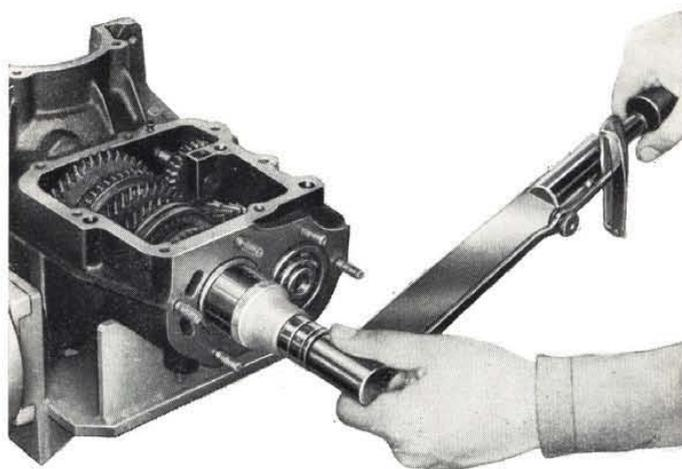

Fig. 180 - Using torque wrench to tighten the countershaft-drive pinion nut.
- tighten the front bearing nut to 115.7 ft.lbs (16 kgm) of torque (fig. 180), using care to check that the 3rd and 4th slip sleeve is rigidly attached to the shaft;